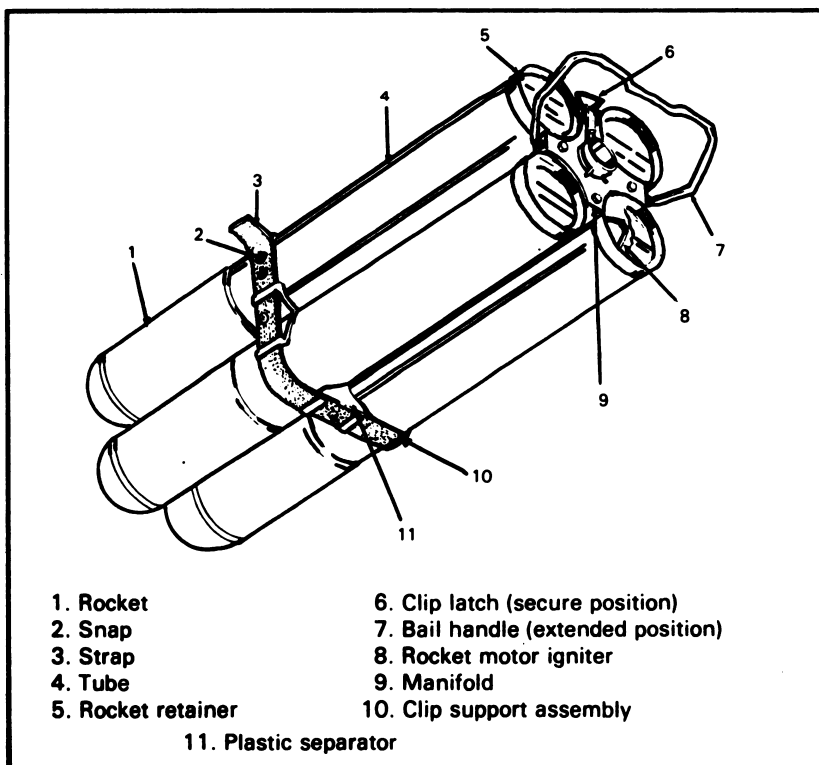

Figure 3.
2. Preoperational inspection of the M74 incendiary rocket clip (fig. 3).